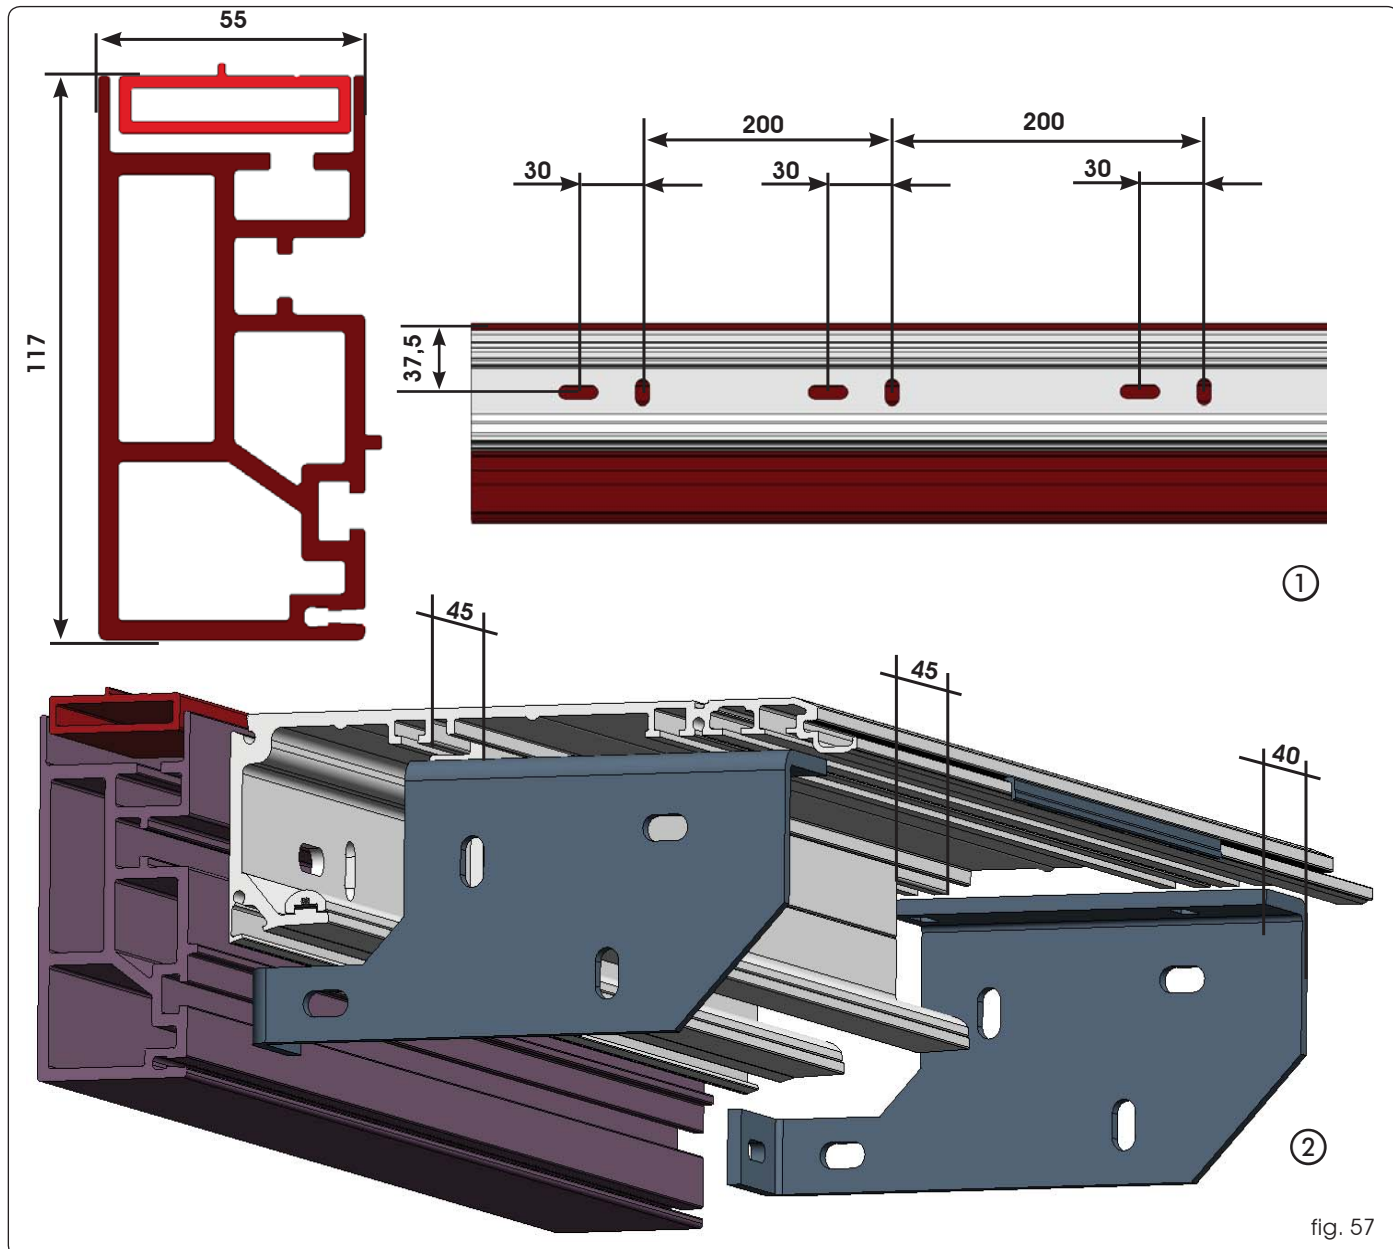

fig. 57
- Drill a series of holes on the free-standing profile in the position indicated in fig.57 at a distance of approx. 200mm between each other.
- Determine the exact position of the free-standing profile taking into consideration the overall dimensions of fig. 57 ①.
Secure centrally by lifting the cross beam with strength in order to align the three fastening points fig.57.
The cross beam of the automated system with the free-standing profile can be secured to both ends by using the side brackets accessory. fig. 57.
- Determine the exact position of the cross beam taking into consideration the overall dimensions indicated in fig. 57.
- Position the plates in the relevant seats and secure the side plates using the three fastening screws M8. fig.57
- Secure the cross beam to the wall using the holes on the side plates (fig. 57. ②) and by means of suitable dowels (not standard-supplied).
According to the cross beam length, intermediate fastening operations can be required and executed by means of the guide shown in fig.57.
- 3) Drill the necessary holes on the free-standing profile in the position shown in fig.57 ①.